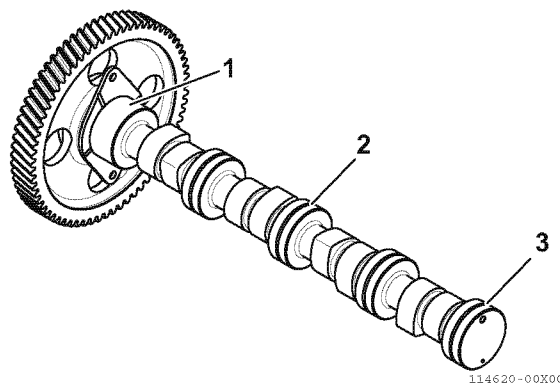

Fig.11-6
- 3 - Measure the journal outer diameter at three locations: the gear end (1, Fig.11-6), intermediate (2, Fig.11-6), and flywheel end (3, Fig.11-6). For standard values, see 0000-07-01-02 "Camshaft".